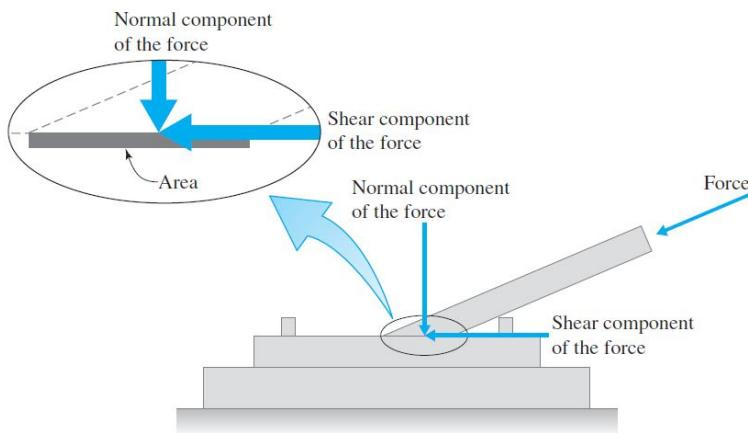

Figure 111: Normal stress and shear stress
Consider the part of a structure shown in Figure 111 where the force is applied at an angle. The tendency of the horizontal component of the force is to shear the plate, and the tendency of the vertical component is to compress the plate.
- **Compressive** as shown in Figure 111 where the tendency of the force compresses the object, or